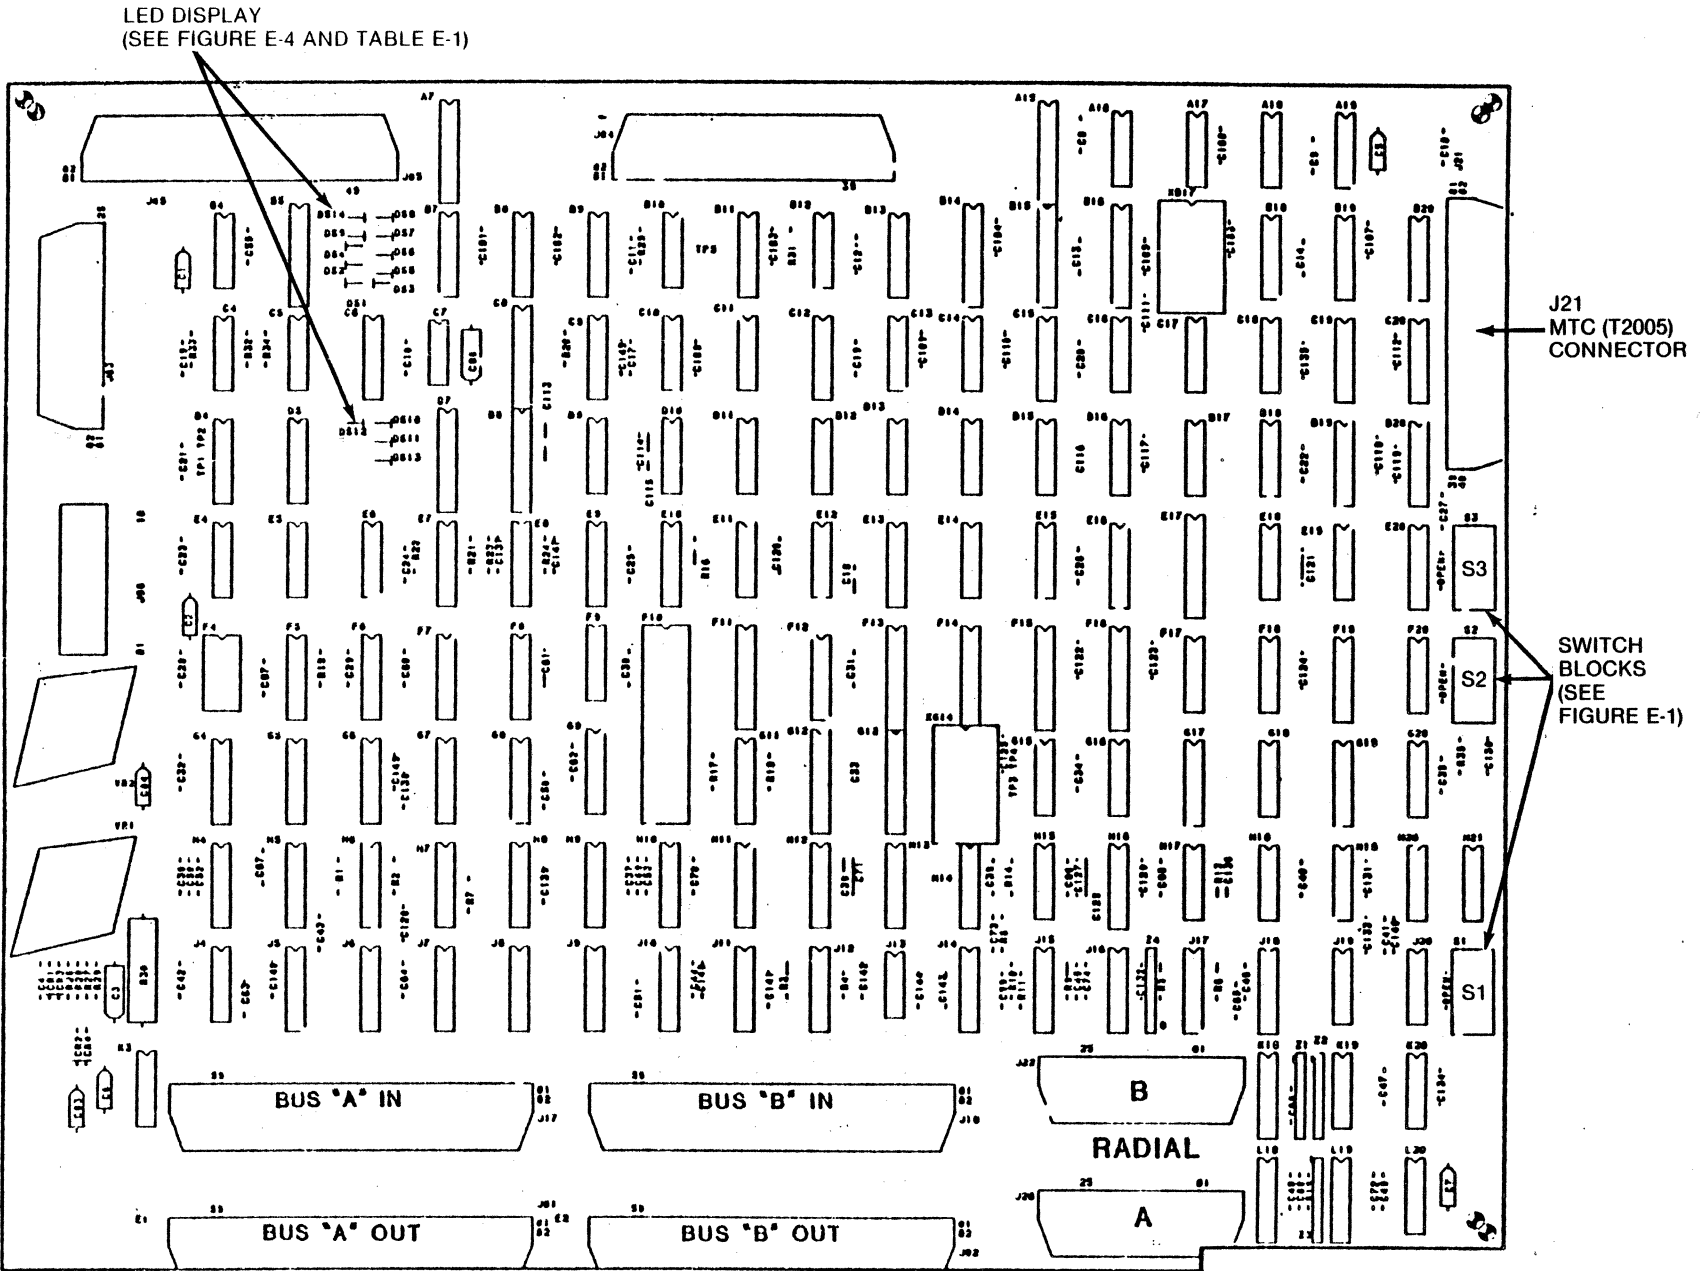

Figure E-2. SMD Dual Access PWB, P/N 27015-001 Switch Blocks and Indicators
3. Each SMD Dual Access PWB also contains 14 Fault (maintenance) and access indicators (LED's) that are shown in Figures E-2 and E-3. Refer to Table E-1 for the fault indicator condition and description.